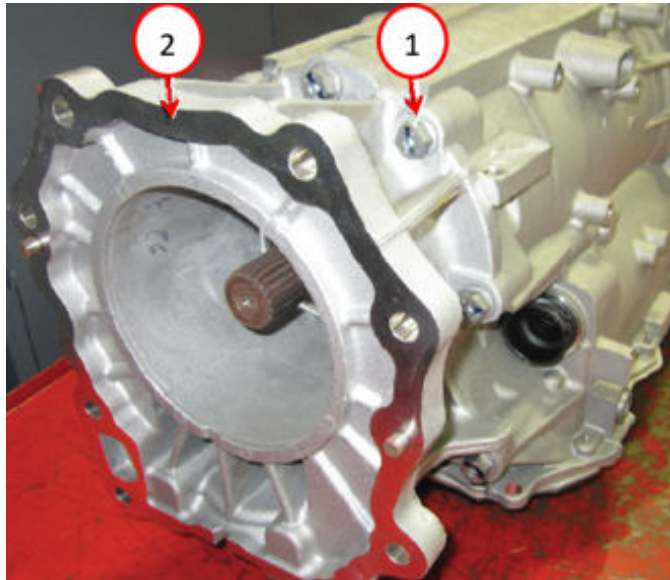

Fig. 52
80. 4X4 ONLY, If equipped, position the extension housing and install the extension housing bolts Fig. 52.